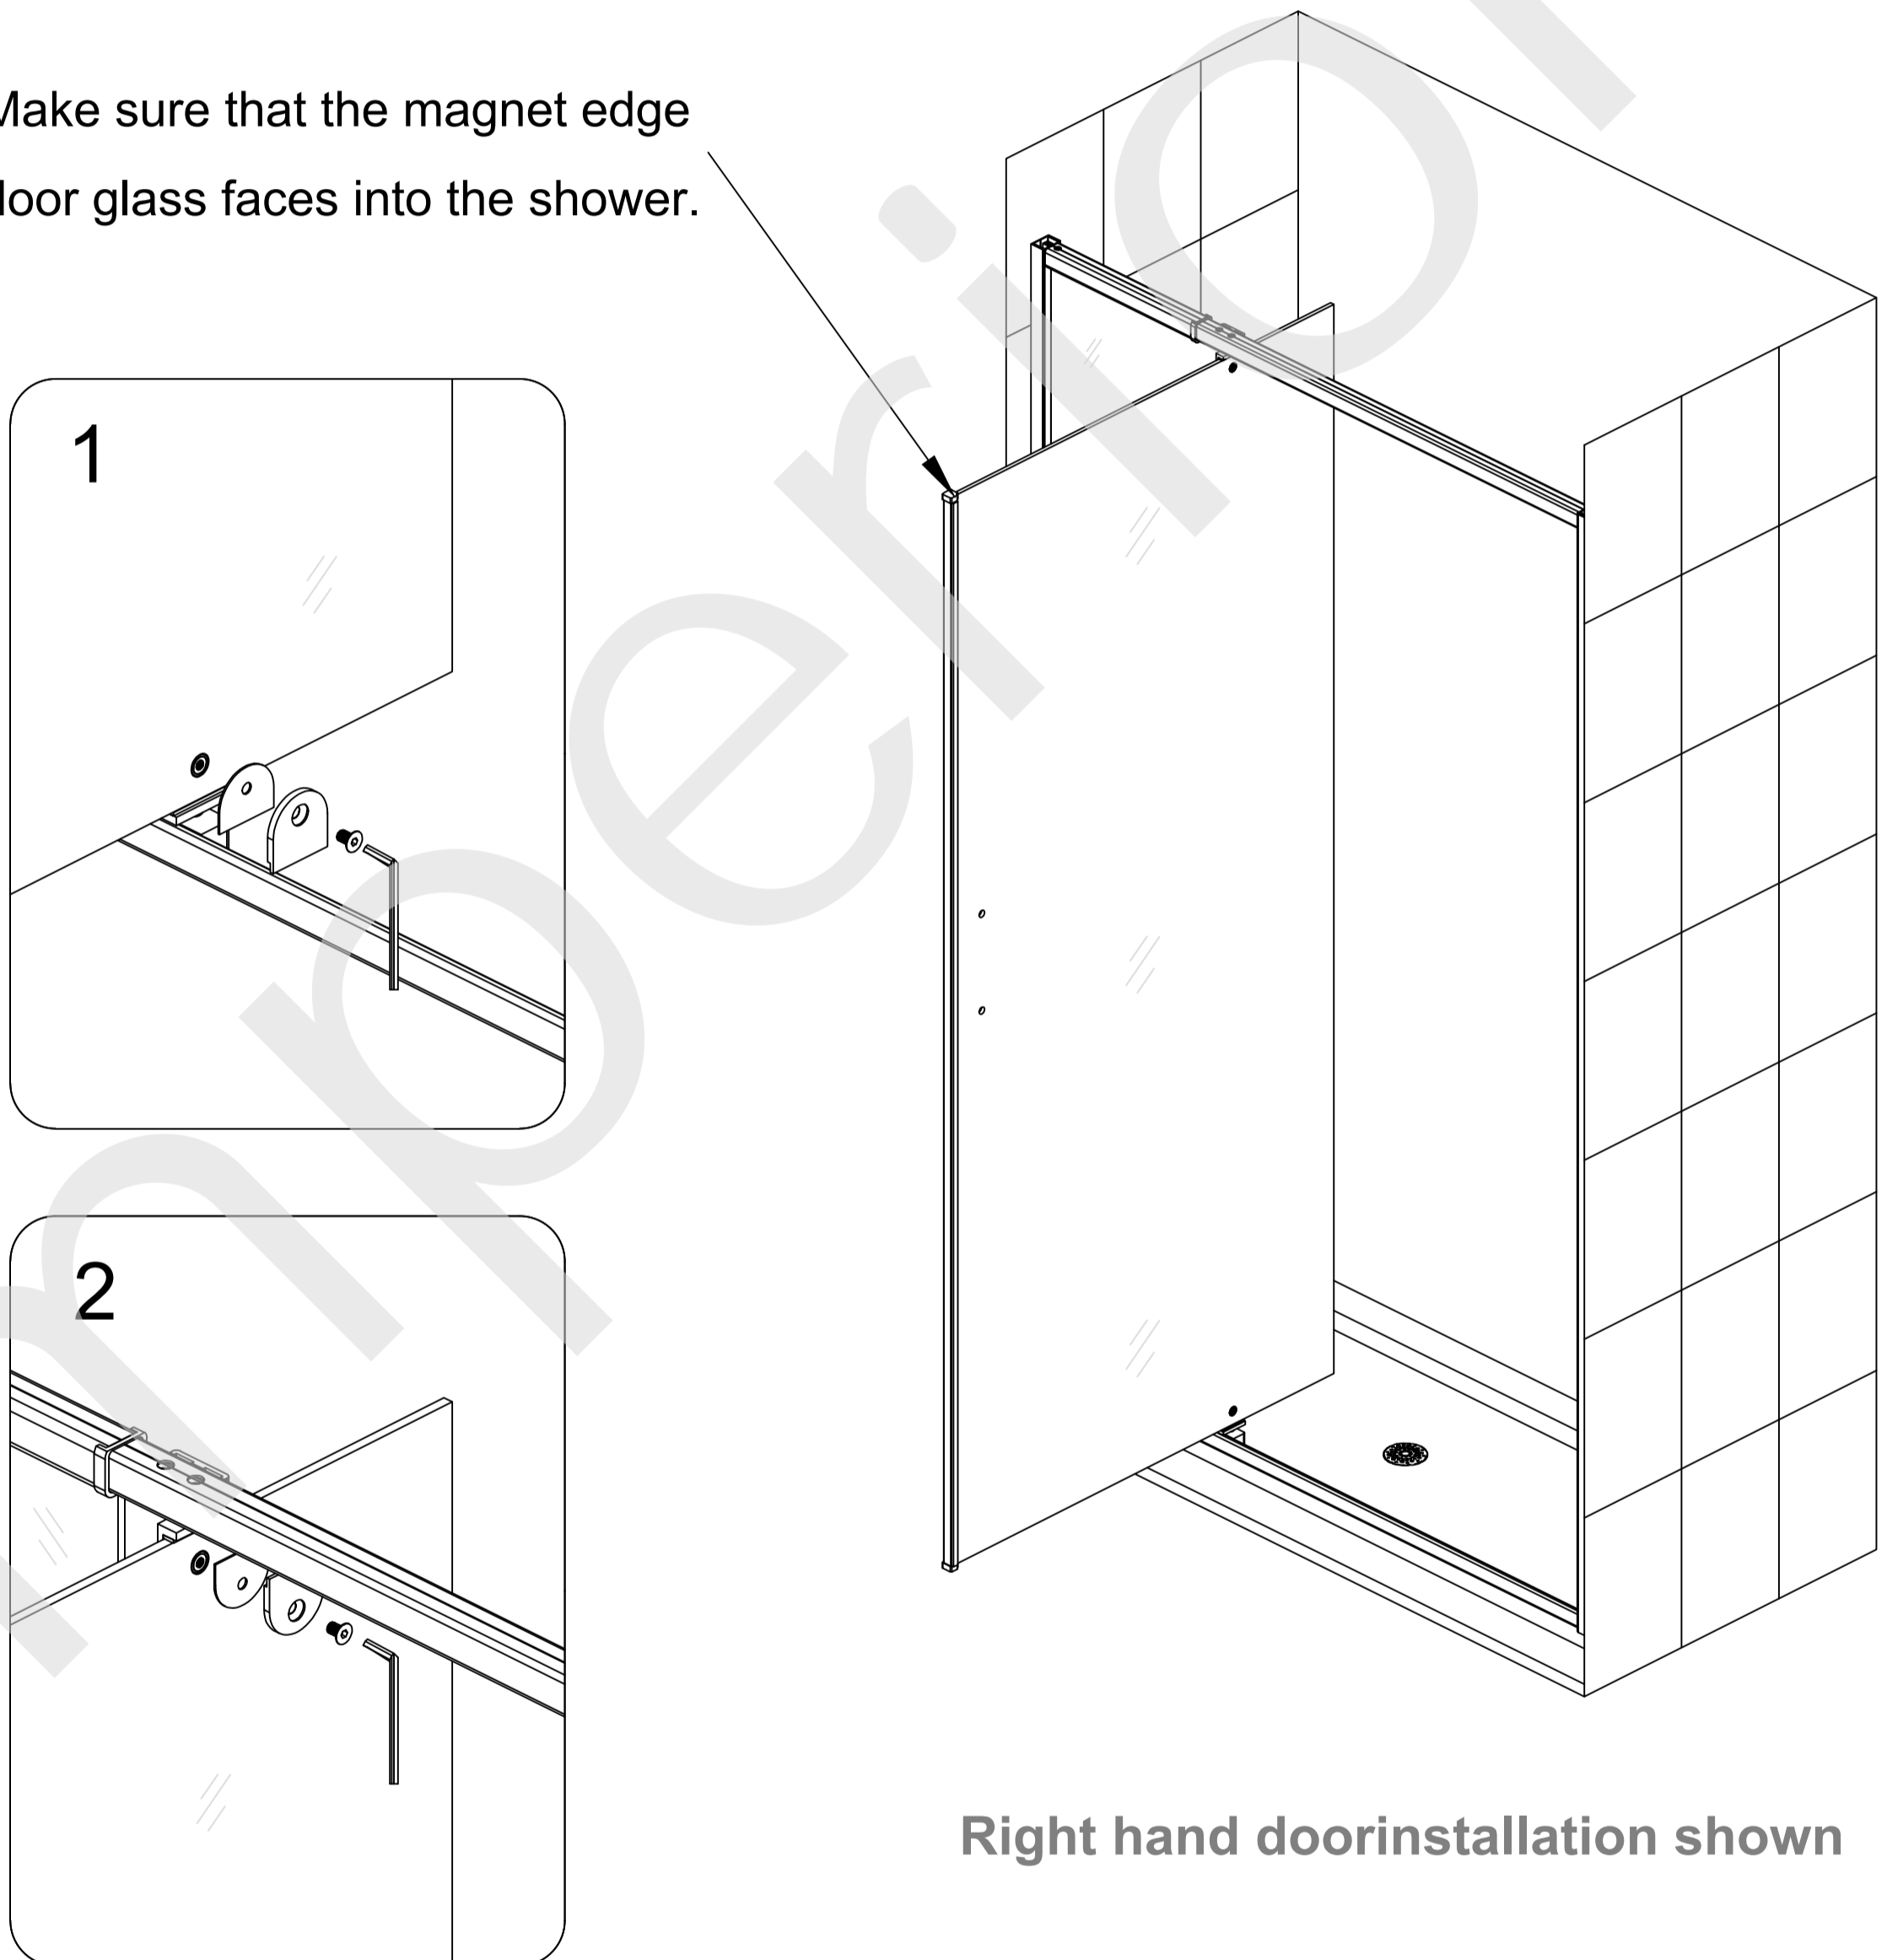

Fig 14
Carefully install the **Glass Door (H)** onto **Bottom Rails (A)**. Install the another **Pivot (B)** into the pivot bases of the Top Rails (A) and then install the **Glass Door (H)** onto **Top Rails (A)**. (Fig 14)